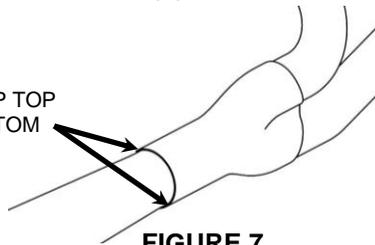
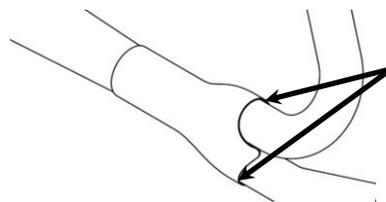

FIGURE 7
FIGURE 8
28. Adjust the heatshield fore and aft on the collector so there is a small and even gap between the rear of the collector heatshield and the front of the muffler body. See **FIGURE 7**. The muffler may need to be slid forward or backward on the mounting bracket to increase or decrease the size of the gap. Also be sure to rotate the front of the collector heatshield on the collector so that it sits on both the front and rear headpipe heatshields evenly. See **FIGURE 8**. NOTE: The headpipe heatshields may need to be adjusted fore and aft and or rotated on the headpipes to allow the collector heatshield to align properly.